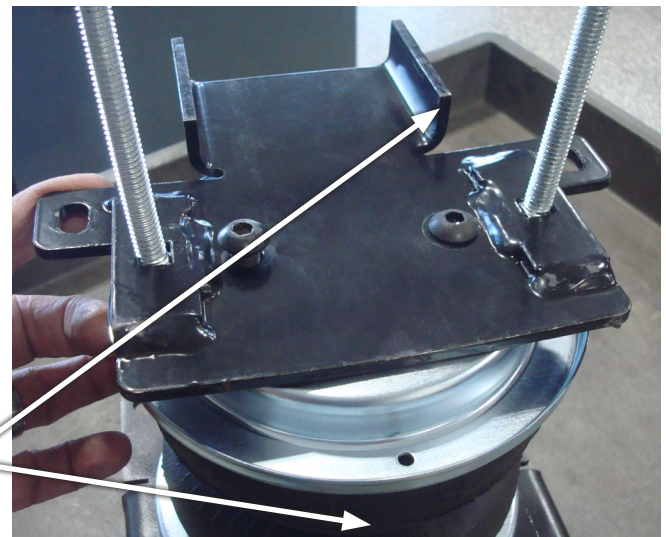

Fig. 9
4. Set a roll plate (F) and the lower bracket with the carriage bolts inserted, onto the bottom of the air spring assembly and attach with the button head cap screws (H) (Fig. 9). Torque to no more than 20 lb.-ft. (27Nm).